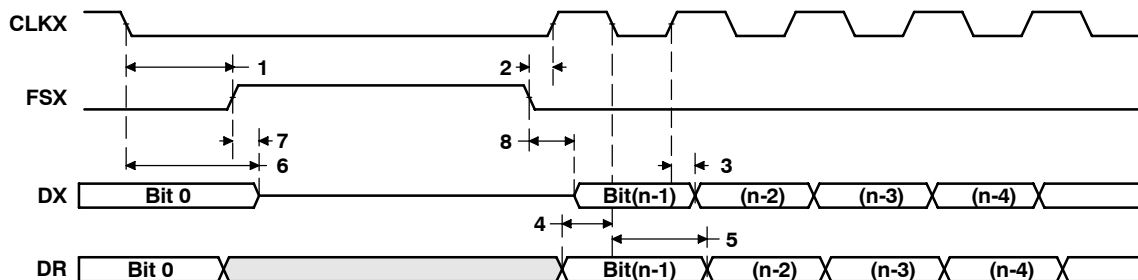

Figure 50. McBSP Timing as SPI Master or Slave: CLKSTP = 10b, CLKXP = 0
**timing requirements for McBSP as SPI master or slave: CLKSTP = 10b, CLKXP = 0†‡ (see Figure 50)**
**switching characteristics over recommended operating conditions for McBSP as SPI master or slave: CLKSTP = 10b, CLKXP = 0†‡ (see Figure 50)**